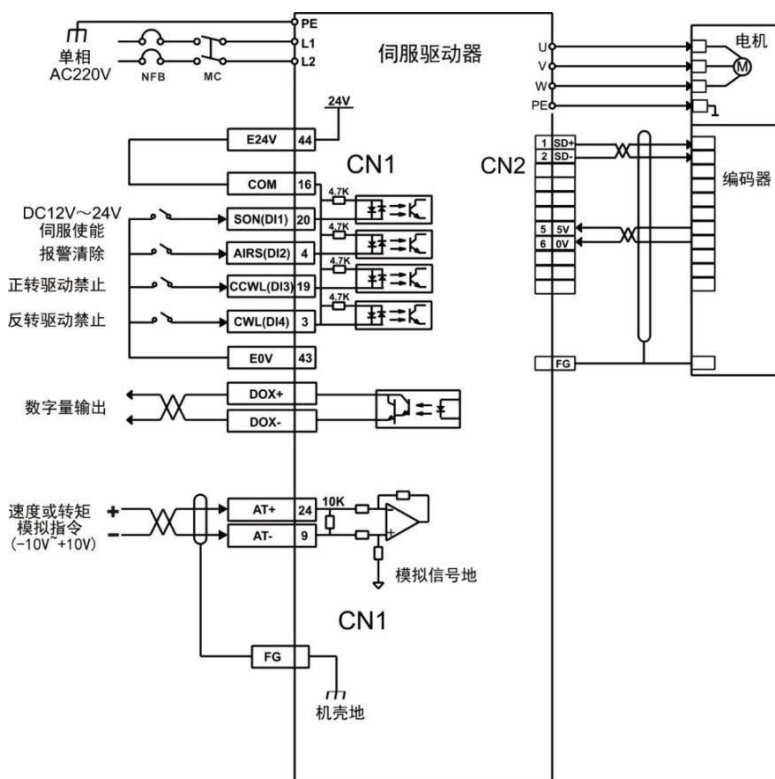

Figure 5.6 Torque Mode Wiring Diagram
- 3) Refer to Figure 5.6 Wiring Instructions to connect the required DI/DO signals in the CN1 terminals, such as servo enable, alarm clear, positioning completion signal, etc.